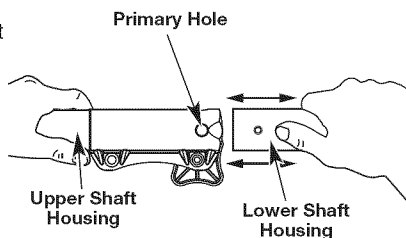

Fig. 2
2. While firmly holding the attachment, push it straight into the Convertible™ coupler until the release button snaps firmly into the primary hole (Fig. 2).
3. While firmly holding the upper shaft housing, pull the attachment straight out of the Convertible™ coupler (Fig. 2).